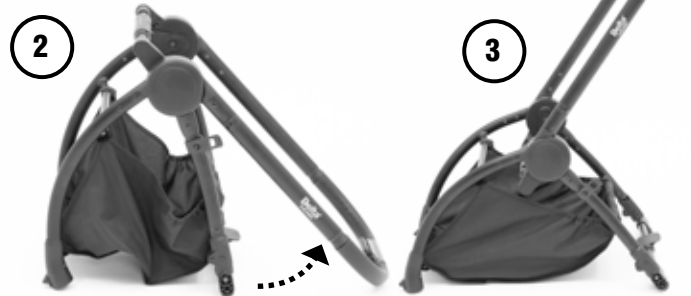

Fig. 1A
- Pull the handlebar up and back until the stroller locks into place (Fig. 1A)